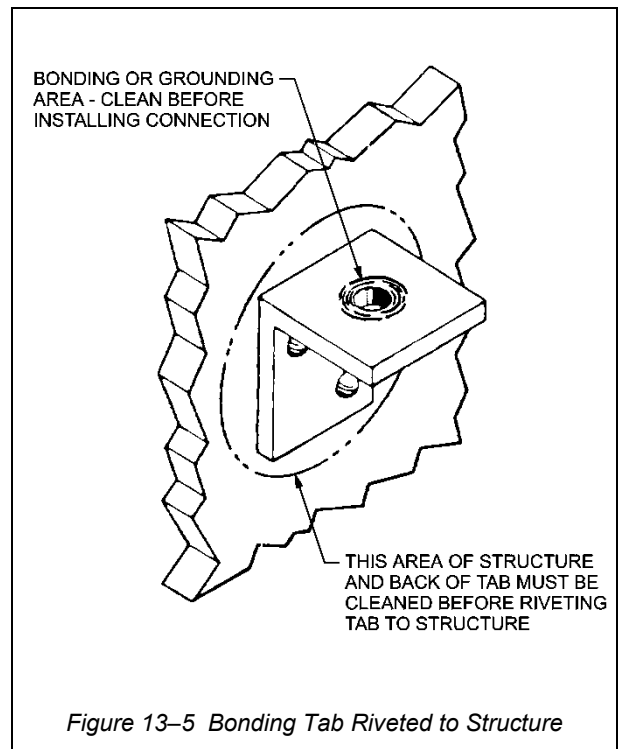

Figure 13-5 Bonding Tab Riveted to Structure
20. For bonding leads carrying high current, (size AWG 4 or larger), do not make the connection directly to the structure, but to a tab of suitable size adequately bonded to the aircraft structure. (See Figure 13-5.) When a bonding or grounding connection is made to a tab riveted to the structure rather than directly to the structure, clean the bonding or grounding surface and make the connection exactly as though the connection were being made to structure. If it is necessary to remove the tab for any reason, replace rivets with one size larger. Make sure mating surfaces of structure and tab are clean and free of anodic film.